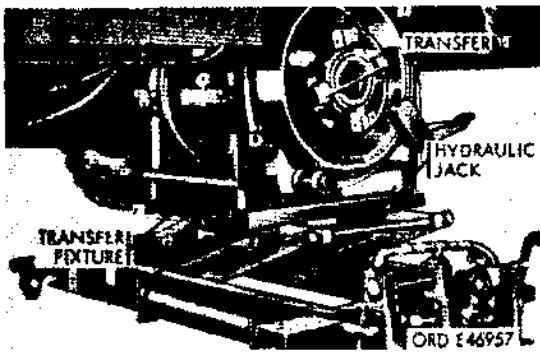

Figure 198. Lowering transfer on hydraulic jack
n. Lower jack to permit removal of transfer from underneath truck (fig. 198).